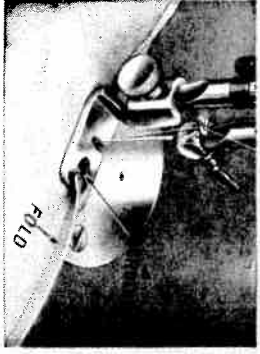

Fig. 31
Attach hemmer foot (Fig. 31). Now handle material as follows:
3. Lower presser foot and begin to sew. Guide material into hemmer foot while proceeding with work (Fig. 31).